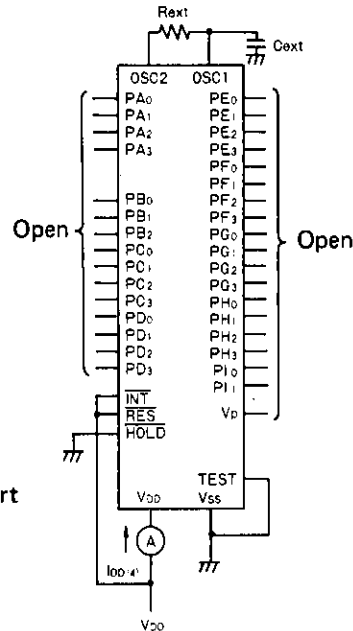

Fig. 5 IDD(4) Test Circuit
| | I _{DD} (4) | HOLD mode, V _{DD} =1.8 to 6.0V, at test circuit in Fig. 5 | | | 10 | μA |